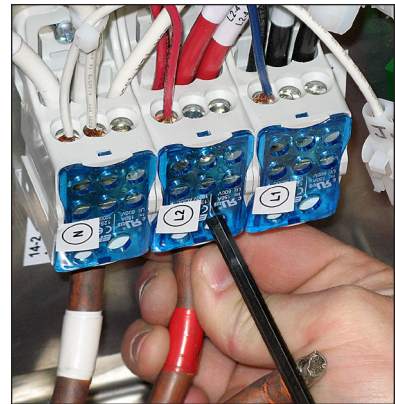

Figure 30: Connect Power Lines
8. Connect power line 2 (L2) to Line 2 of the tap and use a $\frac{3}{16}$ " Allen wrench to tighten to 57 in-lbs. Refer to **Figure 30**.